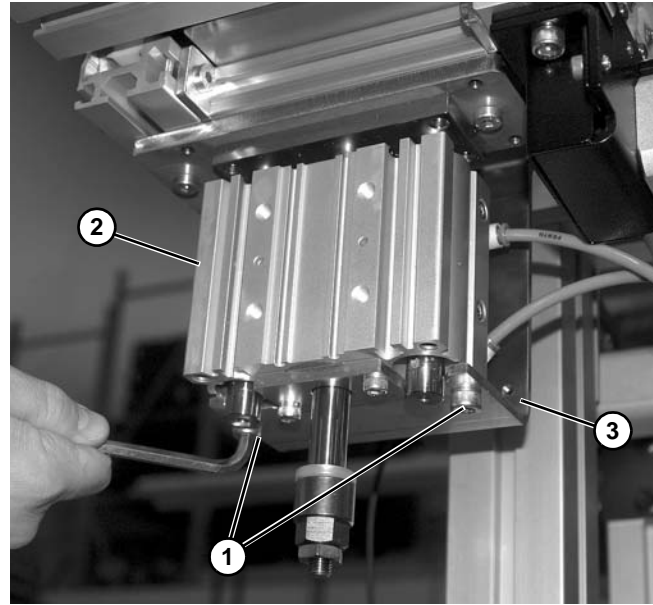

Figure 111
9. Remove two lower screws (**Figure 111, item 1**) securing the lift cylinder (**Figure 111, item 2**) onto bracket (**Figure 111, item 3**).